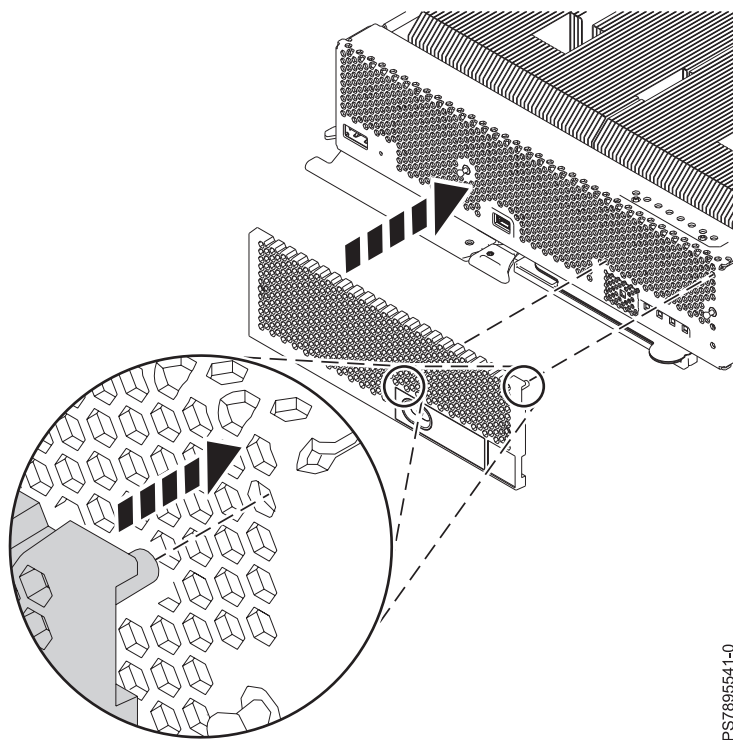

Figure 49. Installing the bezel assembly in an IBM Flex System p270 Compute Node
- a. Align the bezel with the compute node according to the circled locations indicated in Figure 49 on page 87.